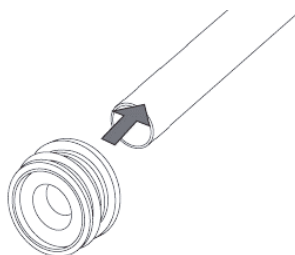

Fig. 8
7. Push the flush pipe backnut (H) and flush pipe washer (G) onto the flush pipe (F), and then insert the flush pipe into the flush valve in the cistern. Secure the flush pipe in position using backnut. Push the flush pipe sealing washer (L) onto the end of the flush pipe. (See **Fig. 8**).